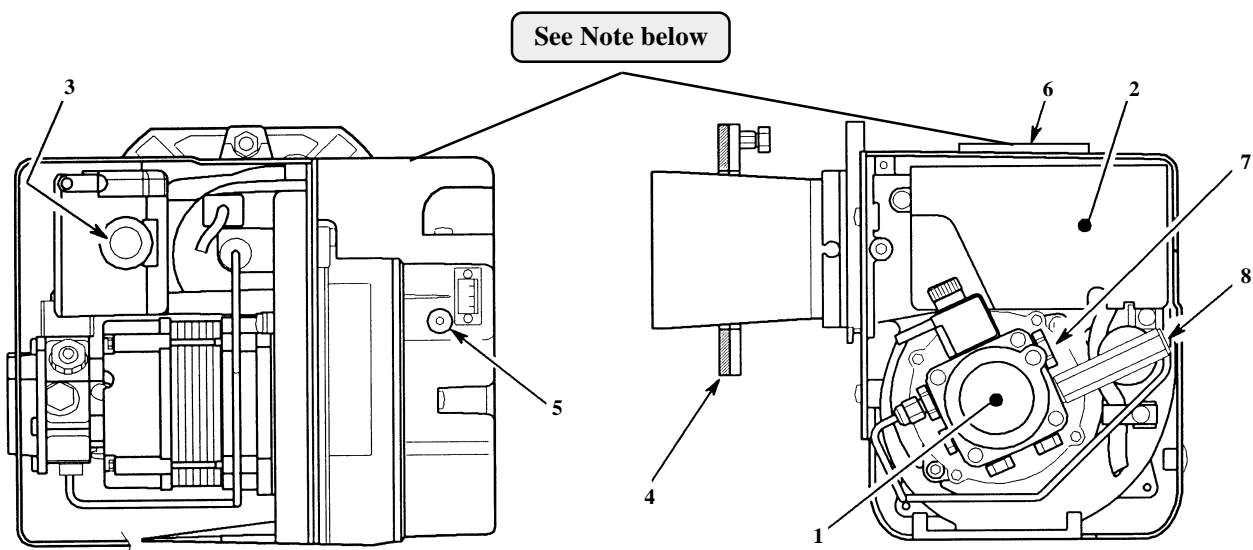

Fig. 17 - RDB burner components
- 4 Connect a combined vent manifold and pressure gauge to the pressure gauge connection port on the oil pump. See Fig. 17. Open the vent screw on your vent manifold to vent the supply while the pump is running.
- 7 With the burner alight, check the fuel pressure. Refer to the Technical Information, Section 3.3. Adjust the pressure if necessary - see Fig. 17.
- 12 Check the smoke number, if satisfactory check the CO₂. Use the hexagonal key supplied to adjust the burner air damper (see Fig. 17) as required. Turning the screw clockwise opens the damper and reduces CO₂ level, turning the screw anticlockwise closes the damper and increases CO₂ level.